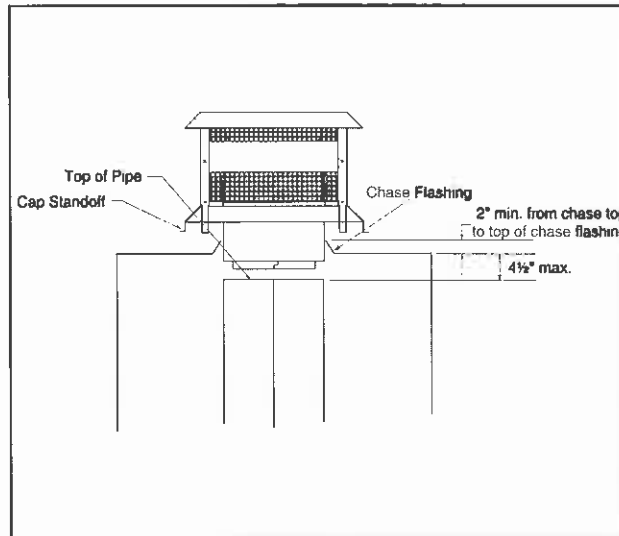

Figure 22 - Installing an ST1175 Square Termination Cap
- c. For installations utilizing an ST1175 square termination cap the last chimney section must not be more than 4½" below the chase top. See Figure 22.